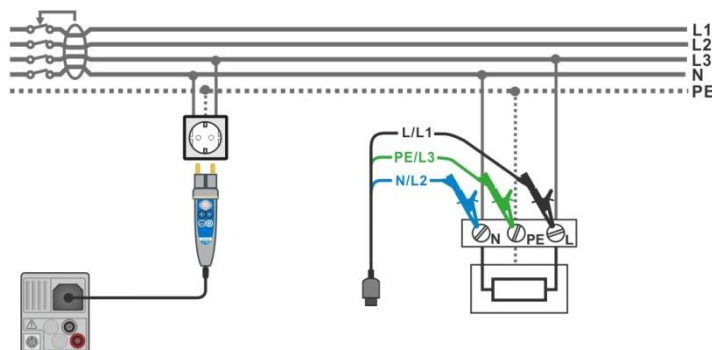

Figure 7.37: Connection of Plug commander and 3-wire test lead
- › Connect test leads or Plug commander to the object under test, see **Figure 7.37**.